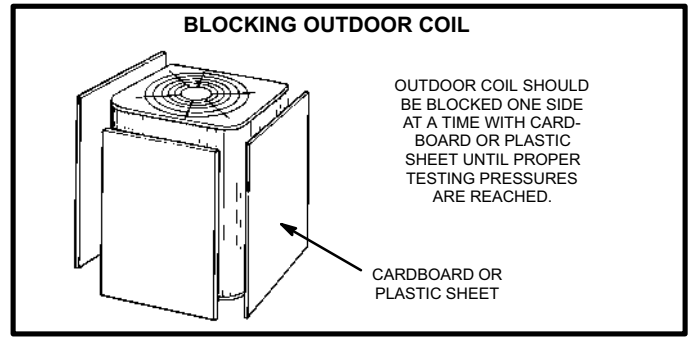

FIGURE 16
- 6 - If ambient temperature is less than 60°F (15°C), air flow might need to be restricted to achieve pressures in the 300-350 psig (2068-2413 kPa) range. See figure 16. These higher pressures are necessary for checking charge. Block equal sections of air intake panels, moving obstructions sideways as shown until liquid pressure is in the 300-350 psig (2068-2413 kPa) range.